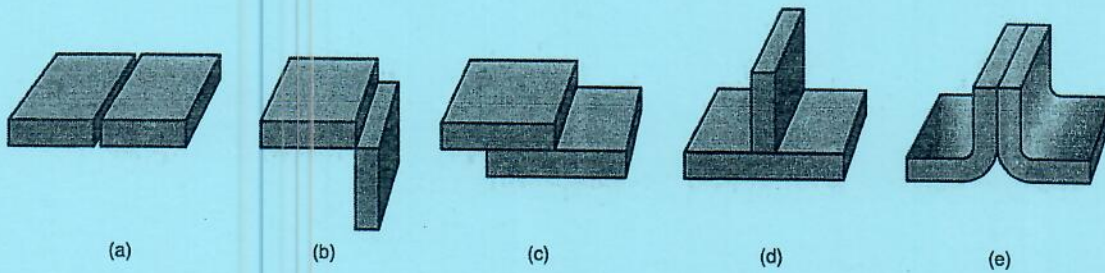

Figure 6 Common joints of solids
- c) Figure 6 shows common joints used to connect two metals together.
Name the joints in Figure 6.